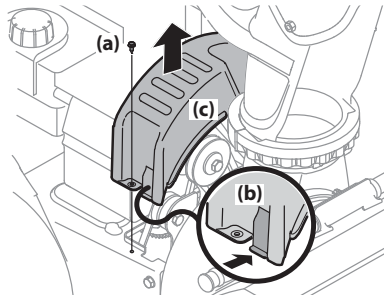

Figure 4-15
- Remove the self-tapping screw (a) shown in Figure 4-15, and press the plastic tabs (b) to release the belt cover (c). Pull the belt cover (c) up and out from around the engine and chute assembly. Set it aside and save.